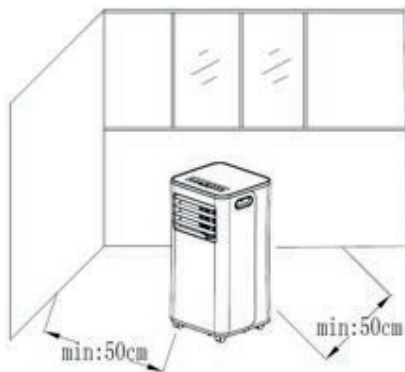

Fig. 2
1) Move the machine with installed heat pipe and fittings before the window, and the distance between the body and walls or other objects shall be least 50 cm (as shown in Fig.2).